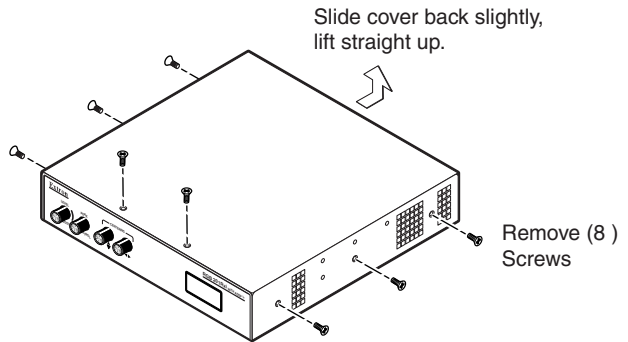

Figure 2-1 — Opening the interface
1. Remove the three screws on each side and the two screws on top of the cover (figure 2-1).